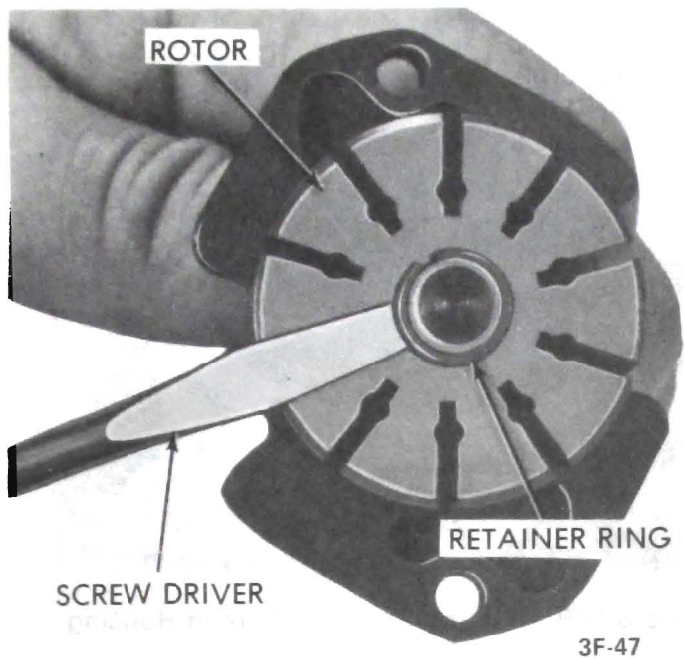

Figure 3F-47 Removing Rotor Retaining Ring
9. Rotate end plate retaining ring until one end of ring is over hole in housing. Spring inward on one end of ring with 1/8" punch to allow screwdriver to be inserted and lift ring out. See Figure 3F-46.